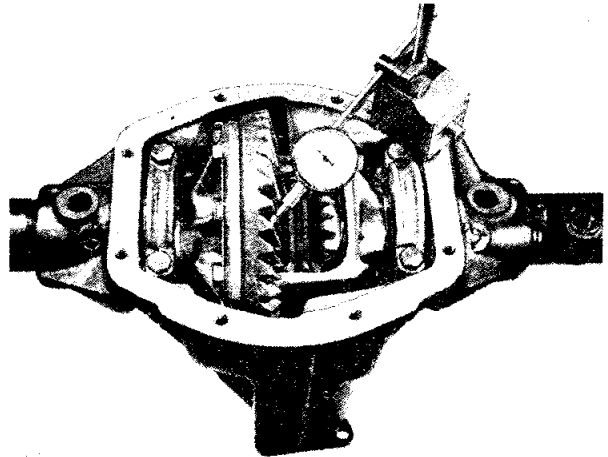

Fig. 32 Checking the back lash of the differential unit utilising a DTI.
- (xxvi) The pinions and crown wheel backlash is checked with a dial gauge as shown in Fig. 32, and should be .004"—.006": an average should be taken of several teeth.